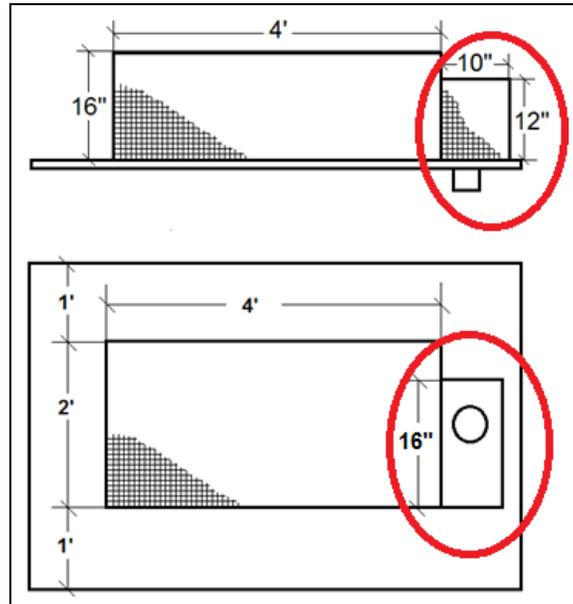

Figure 1-26.
11. Now construct the smaller cage (red circle) 10"x12"x16" using the ½" by ½" hardware cloth (Figure 1-26).